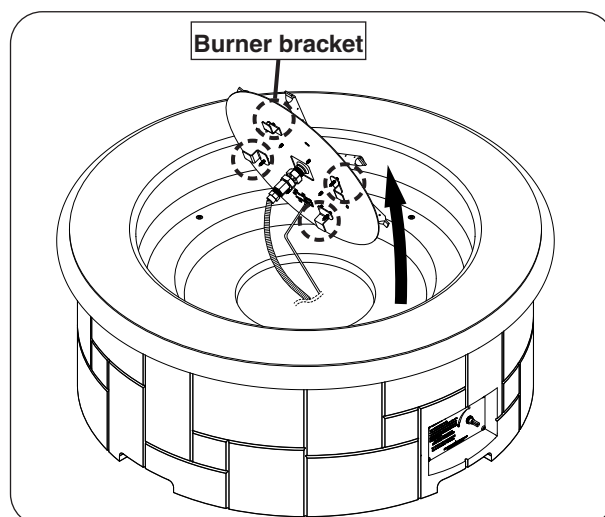

Fig. 29-3 Remove burner and valve assembly
3. Use a $\frac{5}{16}$ " nut driver to partially unfasten the four screws found on the burner assembly. Then carefully remove the burner and valve assembly and set it off to the side. See Fig. 29-3.